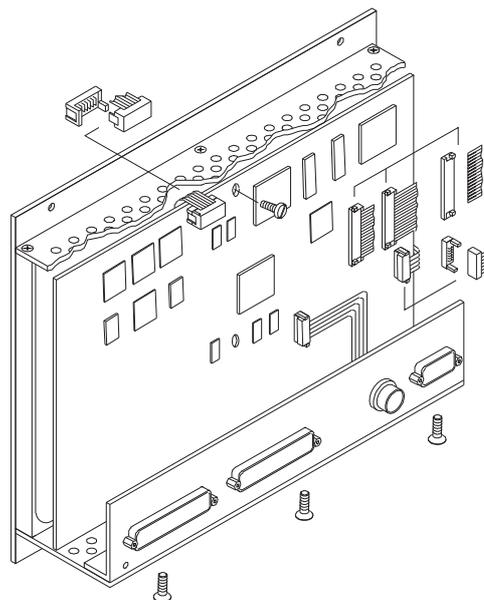

Fig. E 8-22: Fastening the mounting unit of main pcb and connector panel
15. Bring the main pcb into the final position. Be sure not to damage the flat cables. Fasten it with four screws. Install and fasten connector panel with three screws (Fig. E 8-22).